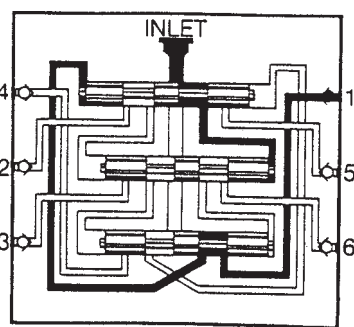

FIGURE 2
**FIGURE 2:** Lubricant flow moves piston 1 from right to left, displacing lubricant through passages to outlet 1. The shifting of piston 1 moves the lubricant flow against the right side of piston 2.